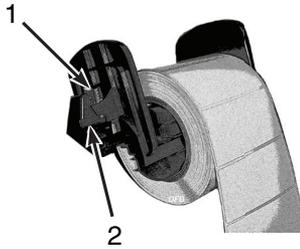

Figure 16, Labeling Material
3. Slide the Brady labeling material roll onto the material supply holder and reinstall the end piece (**Figure 16, 1**), which will automatically center the roll on the holder.
4. Reinsert the material supply holder onto the bracket grooves on the frame. Ensure the electrical contacts under the side tabs (**Figure 16, 2**) are properly seated in the frame so the printer will correctly read the material identification tag. Ensure the material rolls from the top of the roll as shown in **Figure 16**.